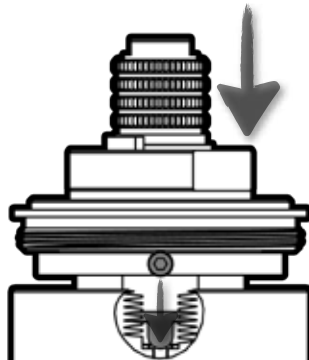

Fig. 25
10) Refit the CARTRIDGE 15 into the body, ensuring the ALIGNMENT PIN 18 locates correctly and push down firmly (Fig. 25)